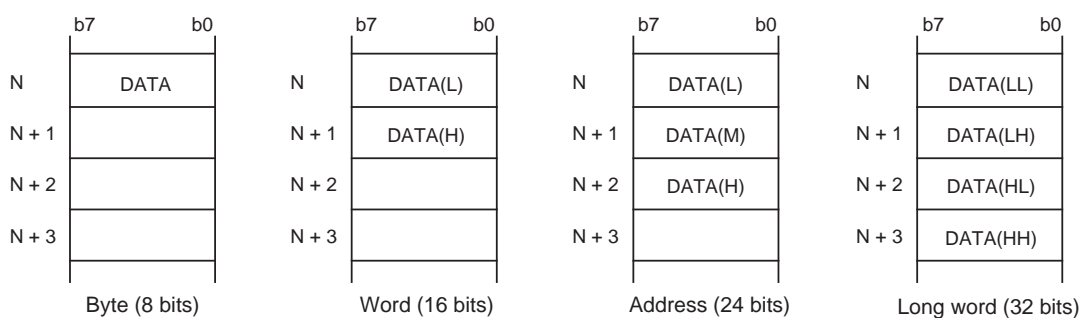

Figure 2.4.2 Data arrangement in memory
Figure 2.4.2 shows the data arrangement in the M16C/80 series memory. Data is arranged in memory in units of 8 bits as shown below. A word (16 bits) is divided between the lower byte and the upper byte, with the lower byte, DATA(L), placed in a smaller address location. Similarly, addresses (24 bits) and long words (32 bits) are located in memory beginning with the lower byte, DATA(L) or DATA(LL).